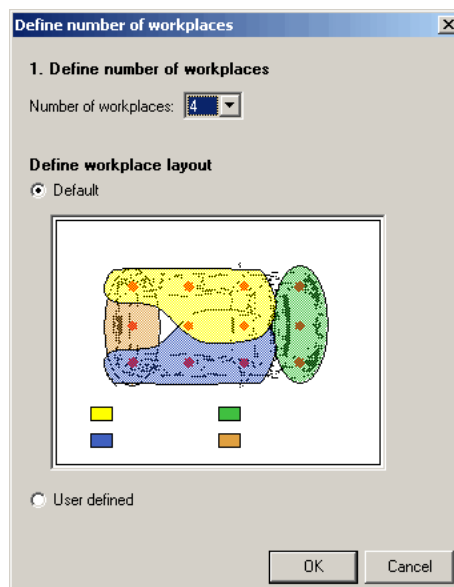

Figure 95: Selecting Standard Default Setting of Balancing Process
- 2) Select the number of workplaces. Workplaces are highlighted. *Please refer to the Figure 95.*